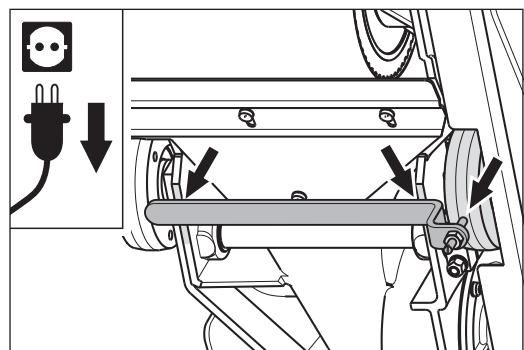
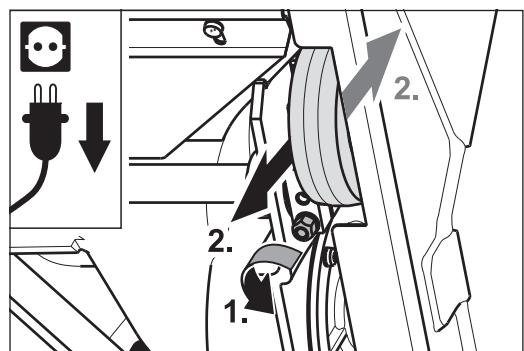

Fig. 44 Remove the current setting fixture from the right-hand wheel (seen from below).
Fig. 46 Release the screw on the right-hand wheel clamp (1.) and adjust the wheel (2.).
- 4** For setting, first take the actual position of the adjustable wheel using the setting fixture (see tool bag). Position the fixture against the machine housing in such a way that it rests not only against the machine housing on both sides, but also at the adjustable wheel (Fig. 44). If necessary, turn the threaded pin of the setting fixture. To do this, release the nut of the setting fixture.
- 6** Release the tension nut at the wheel clamp of the adjustable wheel (Fig. 46, 1.) and place the setting fixture against the machine housing again (Fig. 44).
- 7** Set the wheel in the required position by means of the setting fixture (Fig. 46, 2.) so that the wheel lining just still makes contact with the threaded pin when turning. Tighten the tension nut again.